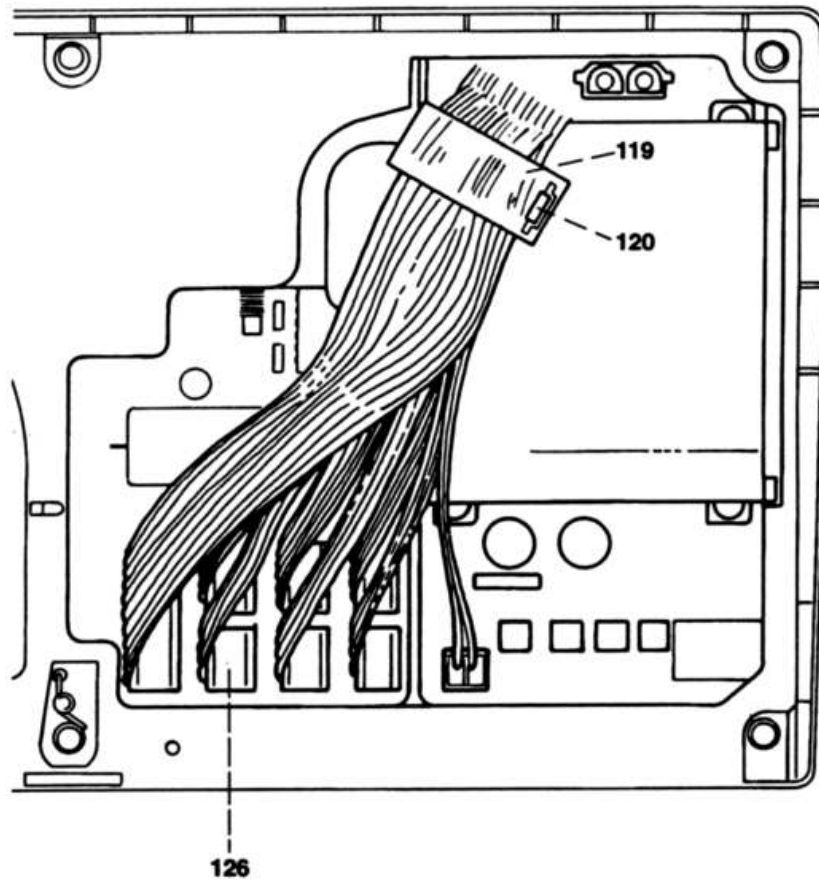

Fig. 29a
- Remove the plug of four-wire flat cable 123 from the circuit board (fig. 29a).
- Insert plug of four-wire flat cable 123 in the black pin base (fig. 29a).